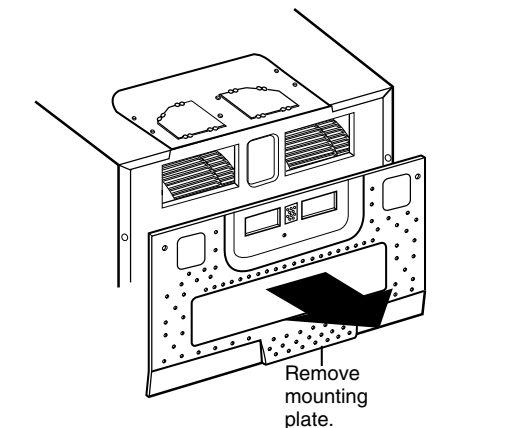

Figure 13
3. Remove the mount-all from the back plate by removing two mount-all mounting screws and one motor mounting screw. See figure 13.